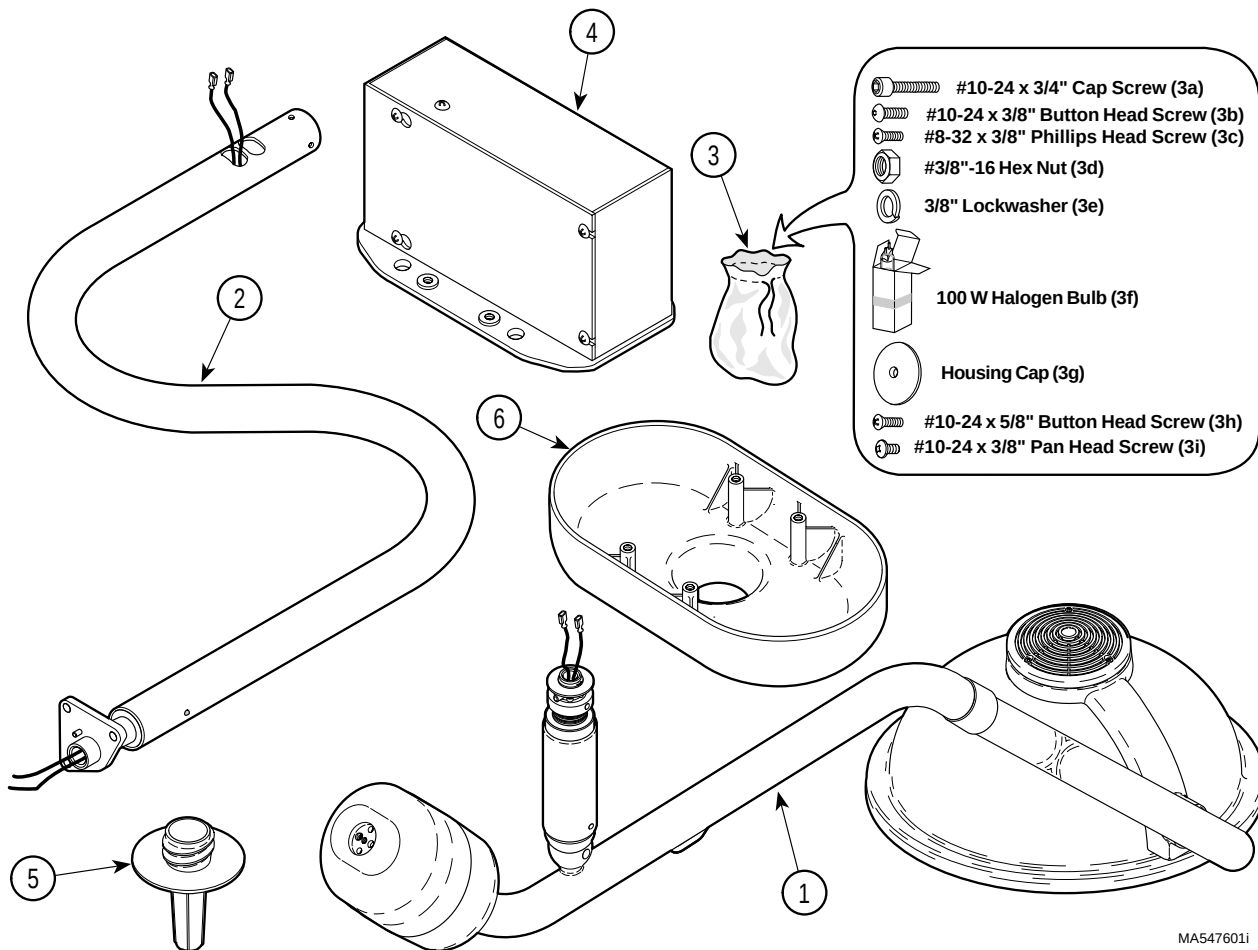

Figure 2. Components Unpacking and Inventory
Below is a list of all the items which should be included in the shipping box(es). The first quantity indicates the number of items which should be present for a single lighting assembly while the second quantity indicates the number of items which should be present for a dual lighting assembly (Refer to Figure 2).
2. Remove one/two cross tube/lighthead assembly (1, Figure 2) and inspect.
3. Remove one/two down tube assembly (2) and inspect.
4. Remove one/two cotton bag (3) and inventory contents; the following items should be included: